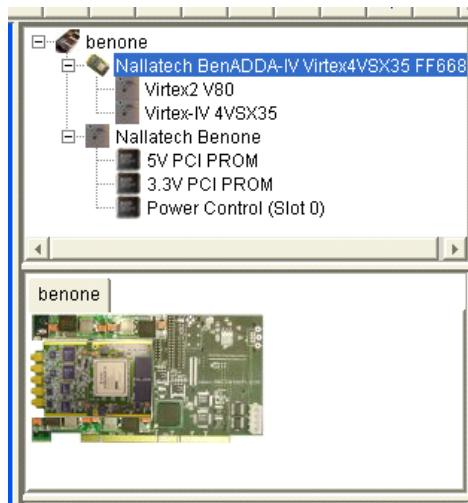

Figure 116: Opening the Card in FUSE
- From FUSE, select Card Control -> Open Card. Then select USB for the interface and click on '**Locate Card**'. At this point FUSE locates the BenONE-Kit Motherboard and the top left corner of the FUSE Probe Tool displays the FPGA information as shown in **Figure 116 on page 197**. If you have the card plugged into a PCI slot then select to open the card via PCI.